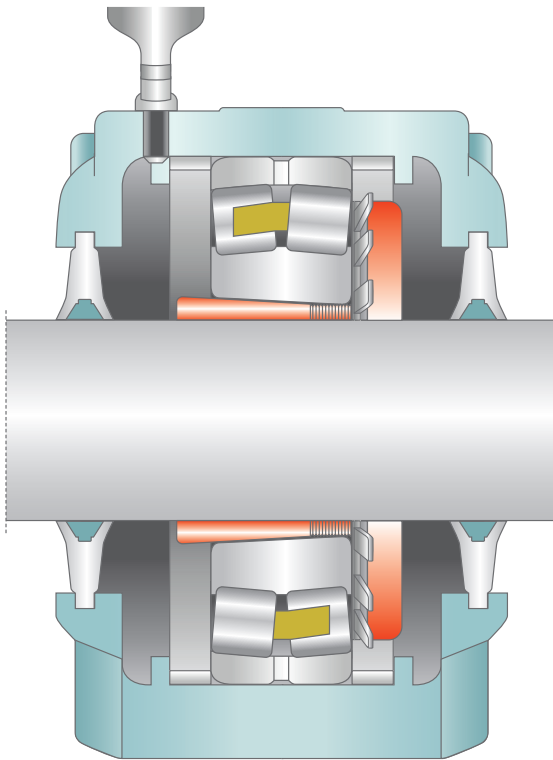

Figure 8:
- For the version with a withdrawal sleeve, the back of the withdrawal sleeve should always be chosen (**figure 8**).